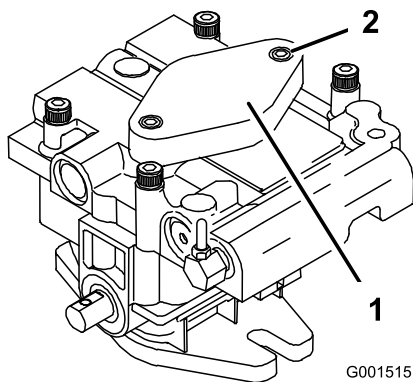

Figure 61
7. To prime the charge pump, loosen two hex socket head capscrews (Figure 61) 1-1/2 turns only. Make sure engine is not running. Lift charge pump housing upward and wait for a steady flow of oil to flow out from under housing. Retighten capscrews. Do this for both pumps.